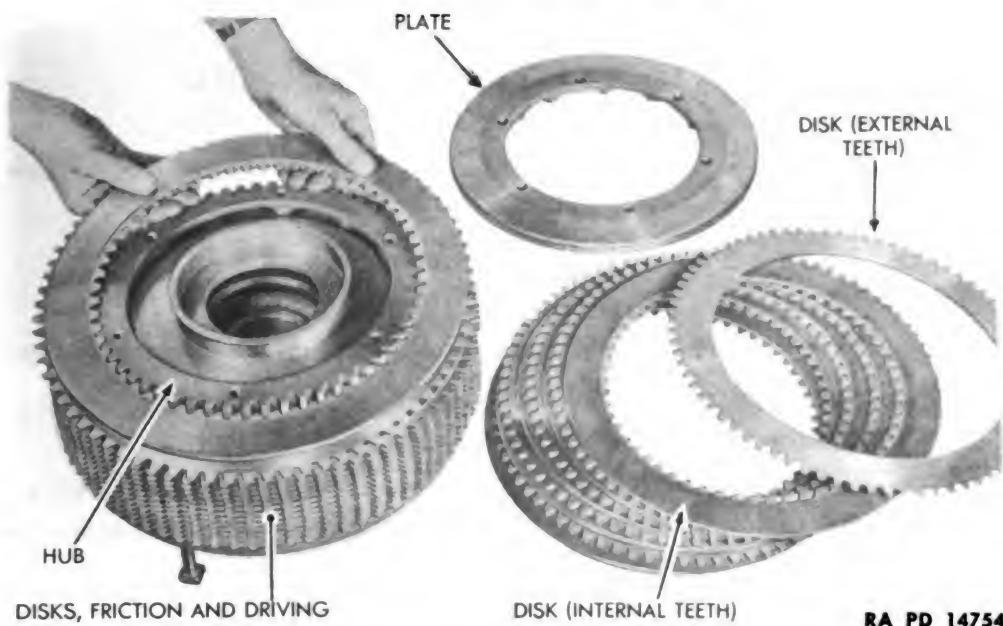

Figure 102 — Friction and Driving Disks Removal
(11) REMOVE FRICTION AND DRIVING DISKS (fig. 102).